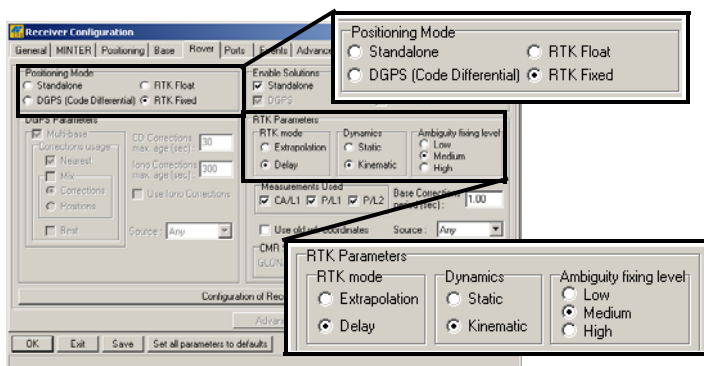

Figure 3-11. Rover Configuration
10. For the Rover receiver, click the *Rover* tab and set the following parameters, then click **Apply** (Figure 3-11 on page 3-14).